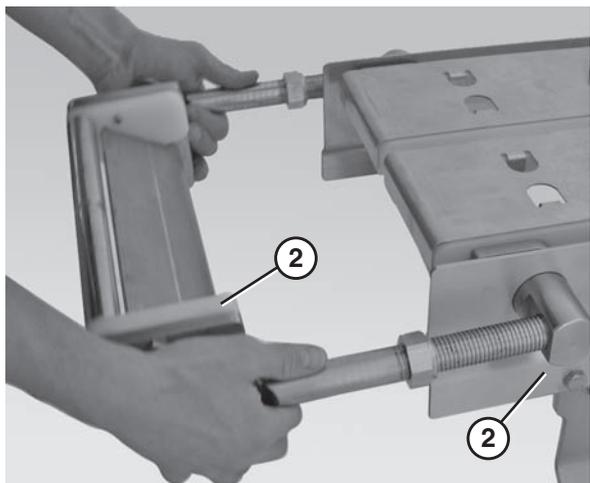

Figure 89
- Slide the nose bar tail assembly (Figure 89, item 1) out of the take up blocks (Figure 89, item 2).